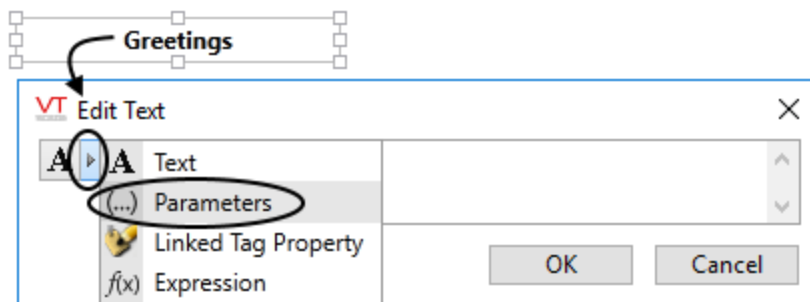

Figure 6-6 Expanding the data source, then choosing the option, Parameters
2. Open the properties dialog for the widget and change the data source from Tag to Parameter. (Similar to Figure 6-6)